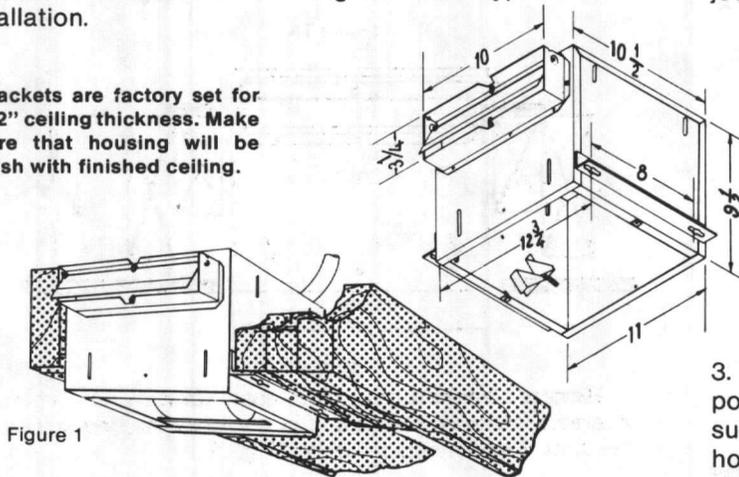

Figure 1
1. **Provide Frame** - Provide a solid frame to assure lowest sound levels. See Figure 1 for typical installation.